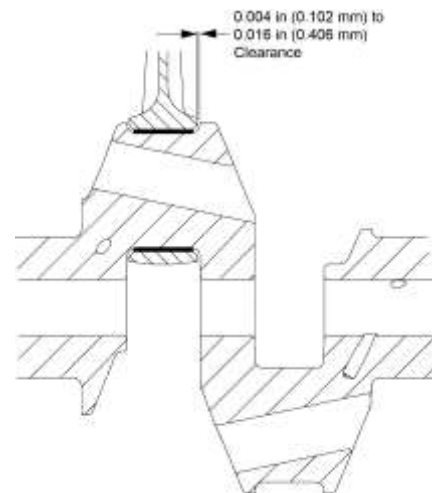

Figure 34
- J. Measure the side clearance between the connecting rod and crankshaft with a feeler gage where shown in Figure 34. The clearance is to be 0.004 to 0.016 in (0.102 to 0.406 mm).